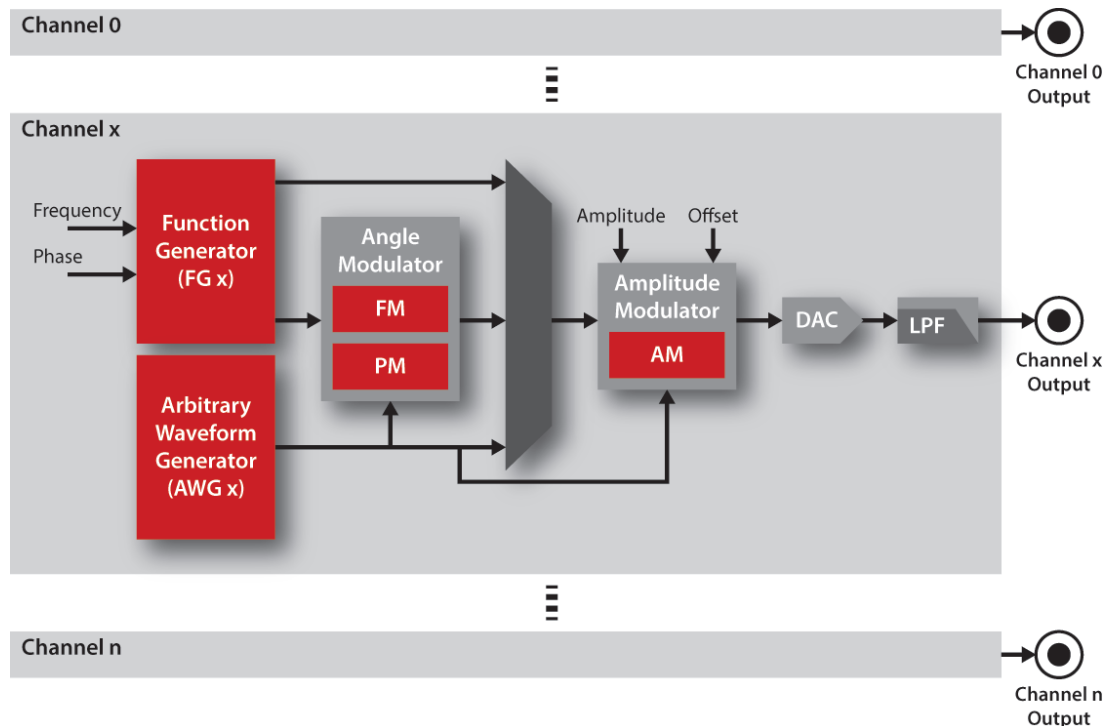

Figure 12: SD AWG-H3300/H3300F Series functional block diagram. All channels have identical output structure.
As shown in Figure 12, the SD AWG-H3300/H3300F Series includes embedded Arbitrary Waveform Generators (AWGs), Function Generators (FG) and modulators, converting the module into a powerful ready-to-use signal generator. The SD AWG-H3300/H3300F Series is capable of generating any standard waveform (sinusoidal, triangular, square, DC voltages) or any arbitrary waveform defined by the user and stored in its onboard RAM. With the embedded modulators, the output channels can be modulated in phase, frequency or amplitude in order to create any existing analog or digital modulation.